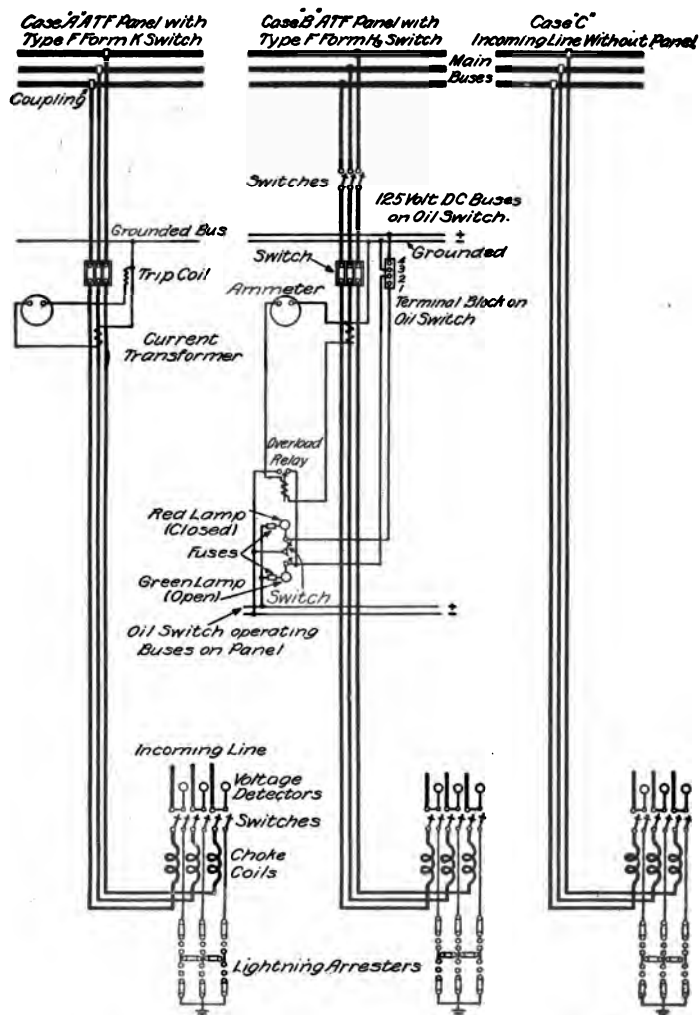

Fig. 307. Outgoing A. C. Line Panel.
A. C. incoming lines are shown in Fig. 307.